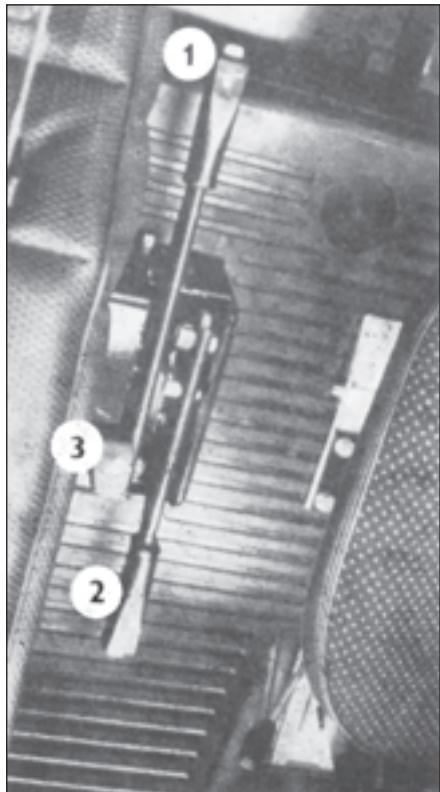

Fig. 48
Hand-brake lever (Fig. 48/1)
P.T.O.-shaft clutch by a lever (Fig. 48/2)
for a single-axle trailer (Fig. 48/3)